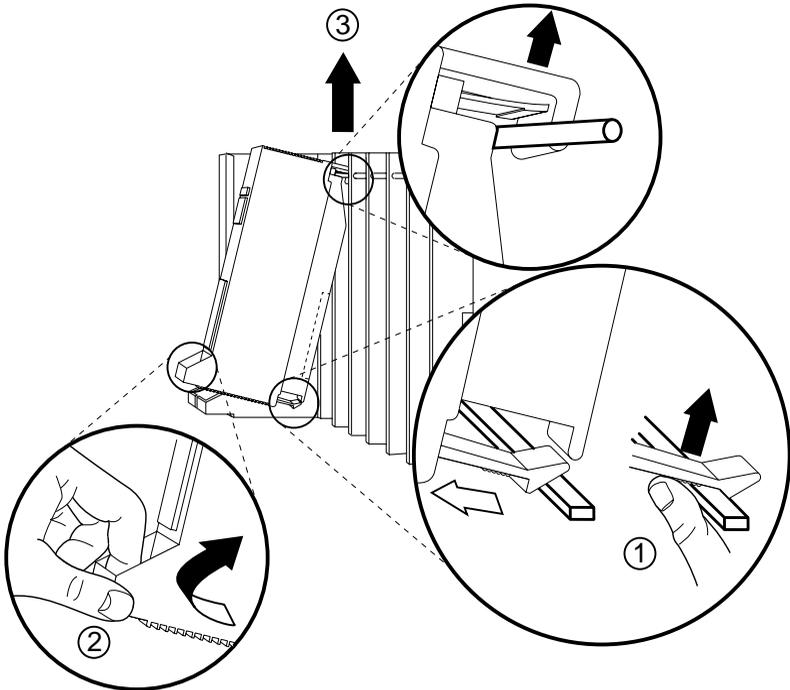

Figure 9-3. Removing a Module from the Carrier
If you are installing an expansion carrier, remove the rightmost module from the control unit and set it aside. See Figure 9-3 on page 9-11.
- ▶ **5. Replace the processor module.** See Figure 9-3 on page 9-11. Then go to **Step 7**.
- ▶ **2. Remove the power supply module to access the housing clips on the leftmost side of the carrier. See Figure 9-3 on page 9-11.**
- ▶ 3. Remove the processor module from the carrier. See Figure 9-3.